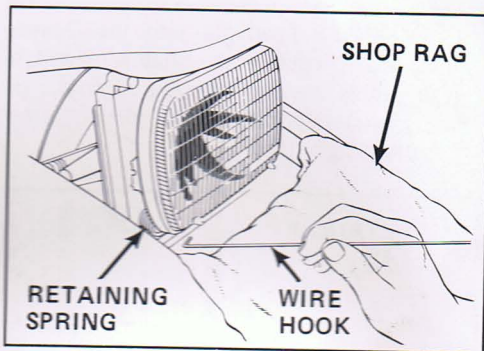

Figure 5 - Removing headlight retaining spring
11. Carefully lower the front compartment lid. With the wire hook, pull the retaining spring away from the bottom corner of the headlight assembly. Use a shop towel to protect the finish in front of the headlight door. See Figure 5.